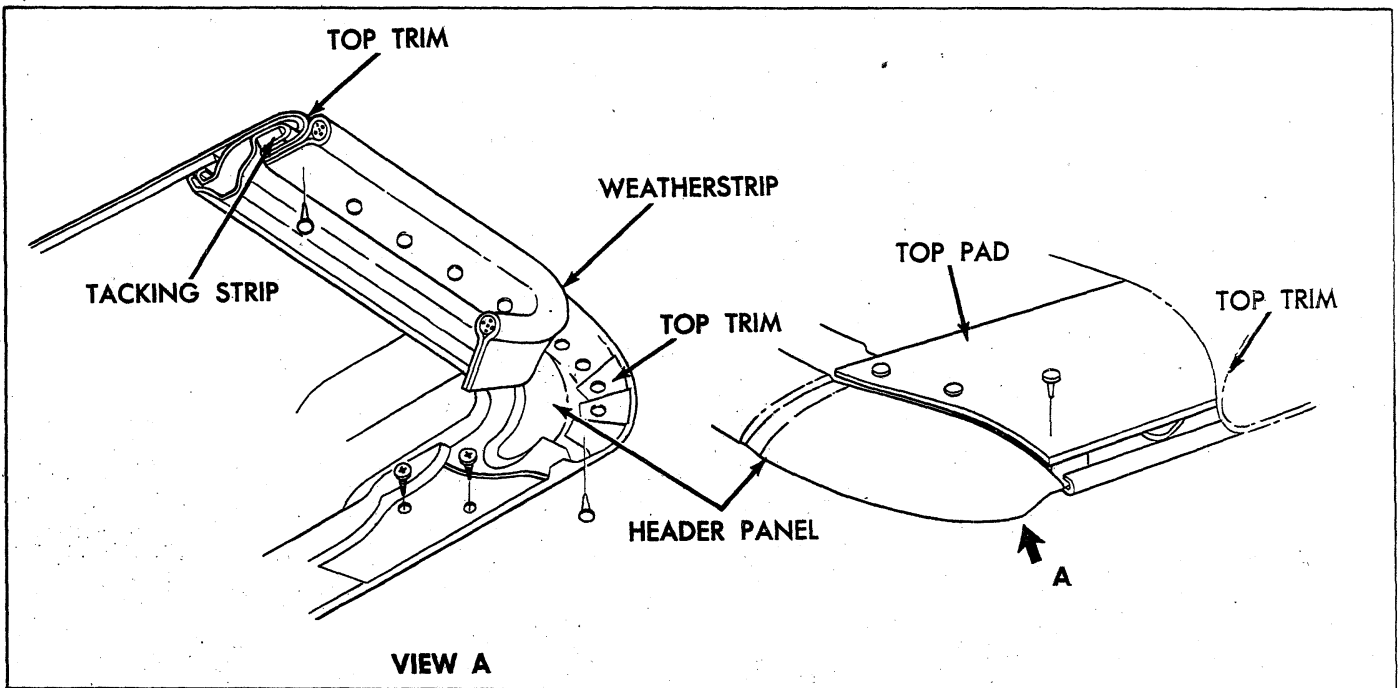

Fig. 103—Trim at Header
2. Remove tacks securing top and header outer weatherstrip to header (Figure 103).
13. Release header from windshield. Tack or staple trim to header (fig. 103).